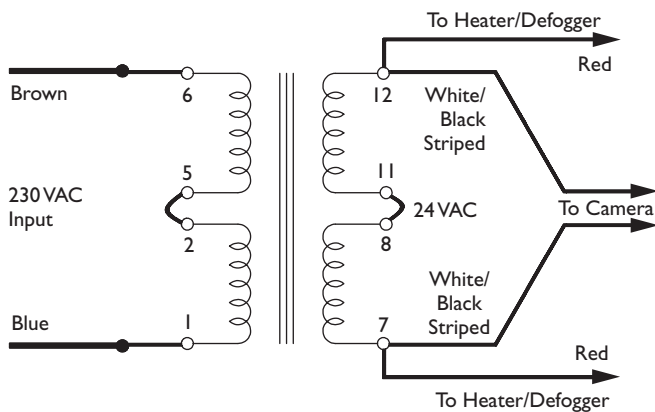

FIGURE 11 LTC 9384/50 Transformer Wired for 24 Volt Camera
1. Installing a 24 volt camera into the LTC 9384/50 housing uses the internal transformer for camera power (see FIGURE 11).